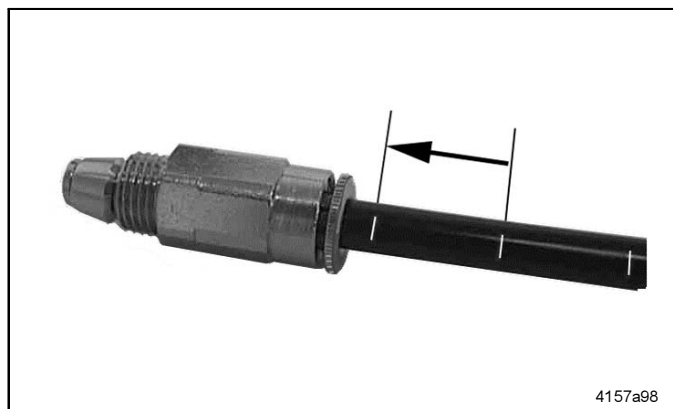

Fig. 5 Check valve with knurled collet and pressure plastic tube
- The pressure plastic tubes are marked with white lines (Fig. 5) as an installation aid.